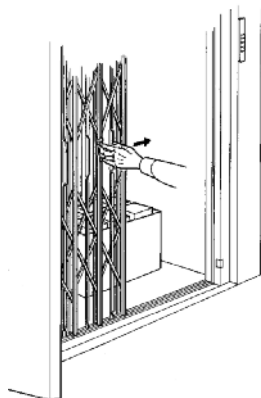

Fig. 23
- When you have finished unloading the Goodsmaster please remember to gently close the inner car gate, ensuring it is properly locked, followed by the landing door to make sure the Goodsmaster is available to other users (Fig. 23 & 24).